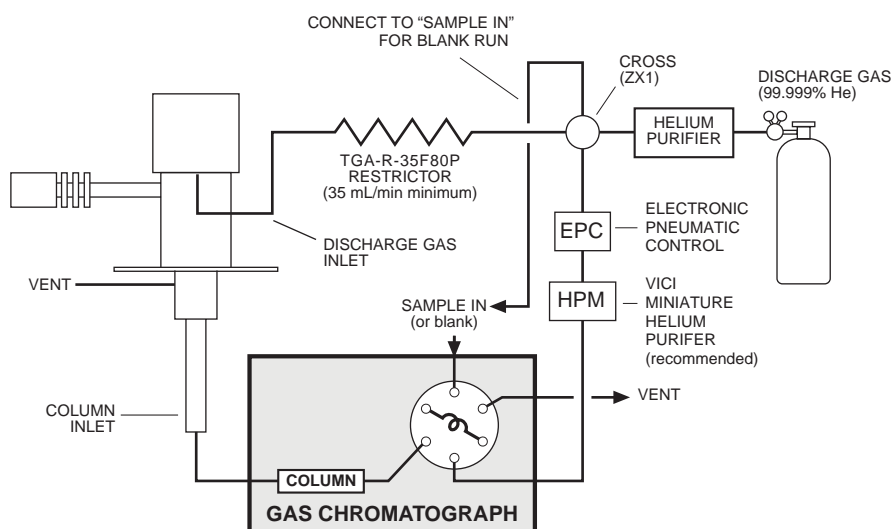

Figure 4: Gas connections for a D-4-I-VA38-R system
Figure 4 illustrates gas connections for the D-4-I-VA38-R detector system. Since the distance from the helium supply to the GC varies from installation to installation, we do not supply tubing for that purpose.
1. Set the discharge gas flow as specified in **Figure 4** on page 7.